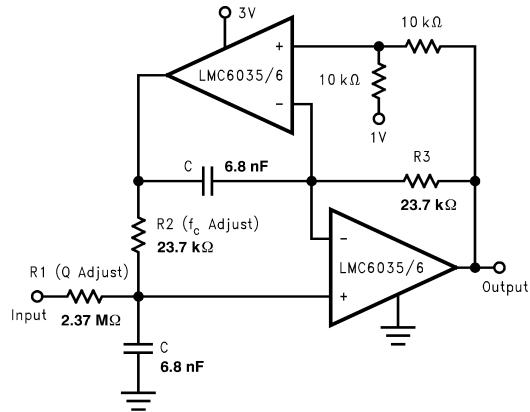

Figure 49. 2 Pole, 1kHz Active, Bandpass Filter
The dual amplifier bandpass (DABP) filter features the ability to independently adjust f_c and Q. In most other bandpass topologies, the f_c and Q adjustments interact with each other. The DABP filter also offers both low sensitivity to component values and high Qs. The following application of Figure 49, provides a 1kHz center frequency and a Q of 100.
1. First choose a center frequency (f_c). Figure 49 represents component values that were obtained from the following computation for a center frequency of 1kHz. $R_2 = R_3 = 1/(2\pi f_c C)$ Given: $f_c = 1\text{kHz}$ and $C_{(\text{chosen})} = 6.8\text{nF}$ $R_2 = R_3 = 1/(2\pi \times 1\text{kHz} \times 6.8\text{nF}) = 23.4\text{k}\Omega$